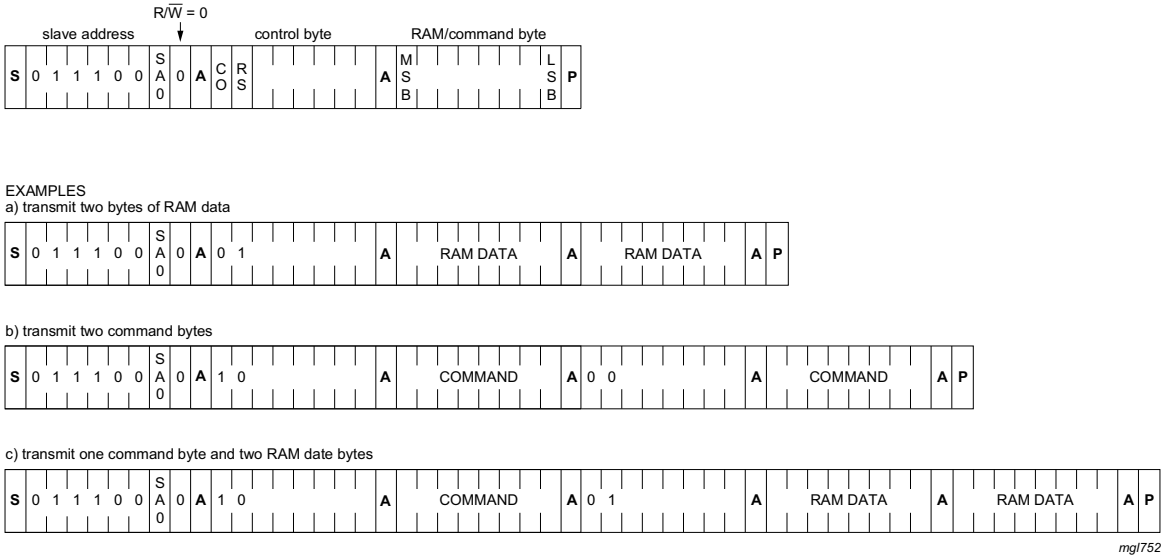

Fig 18. I²C-bus protocol
The I²C-bus protocol is shown in Figure 18. The sequence is initiated with a START condition (S) from the I²C-bus master which is followed by the PCE85133AUG slave addresses.